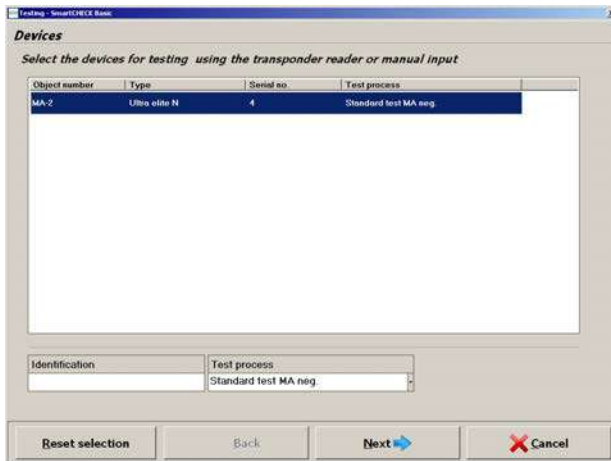

Fig. 18 Selecting a device for testing
- Next test [another device for testing can be chosen, → fig. 18]